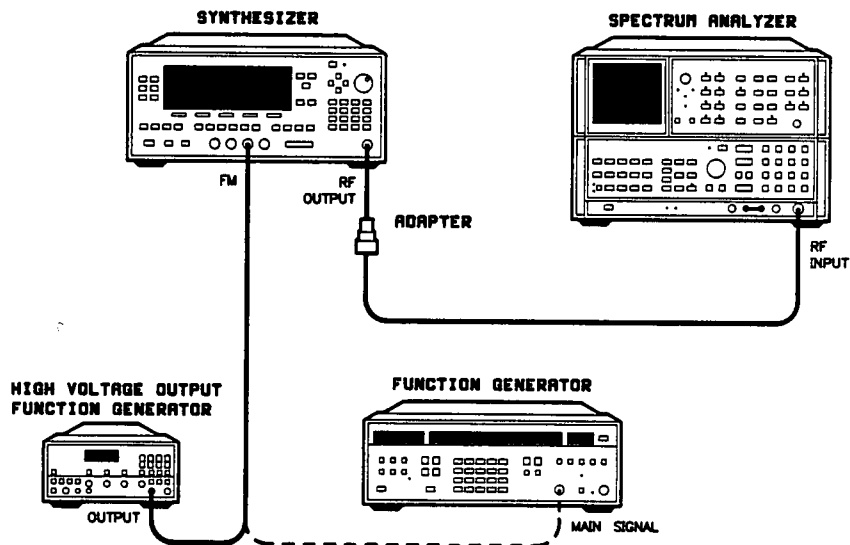

Figure 2-27. Maximum FM Deviation Test Setup
1. Connect the equipment as shown in figure 2-27. Preset all the instruments and let them warm up for at least one hour.